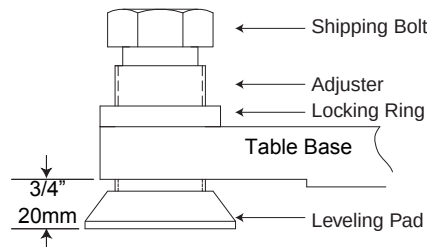

Figure 1-23 Table Base Leveling Pads (Starting Positions)
- 4.) Locate the table leveling pads inside the table in the back and on the side in the front. Preset leveling pad heights to 20 mm (3/4 in.) (see Figure 1-23).